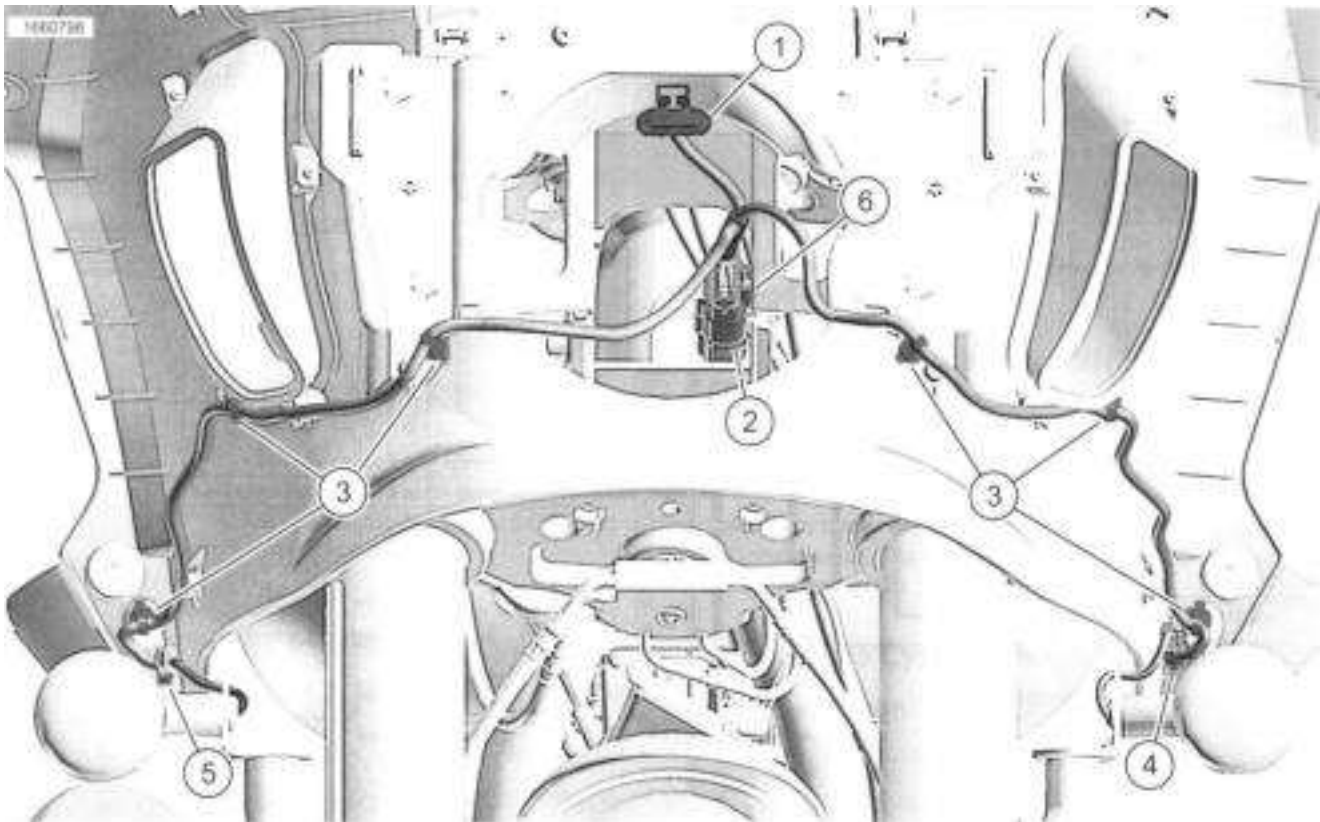

Figure 7-166. Fairing Wiring Harness
- a. See Figure 7-166. Remove connector anchor (6) from fairing.
- b. Disconnect backbone harness connector (2).
- d. Remove cable strap anchors (3).
- a. See Figure 7-166. Install cable strap anchors (3).
- c. Connect left turn signal connector (4).
- d. Connect right turn signal connector (5).
- e. Connect backbone harness connector (2).
- f. Install connector anchor (6) to fairing.